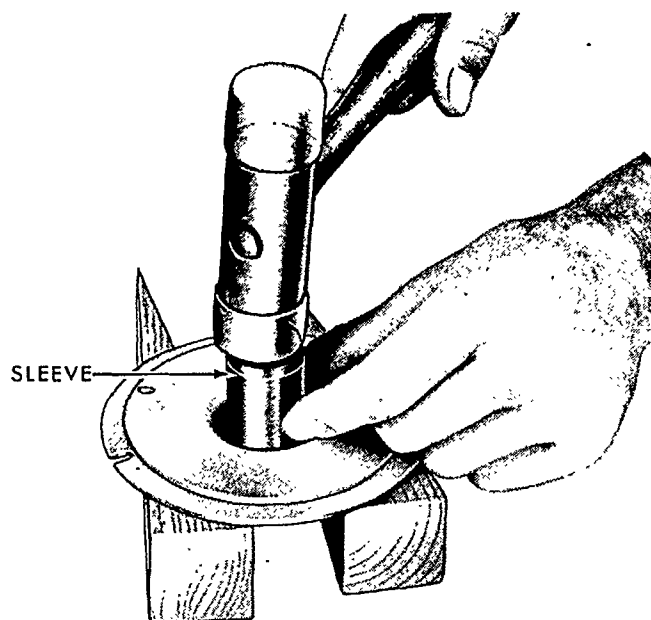

Figure 42
3. **5-Inch Starting Motor:** Remove the bushing from the intermediate plate using a 1-7/32-inch (30.86 mm) O. D. sleeve as shown in Figure 42.